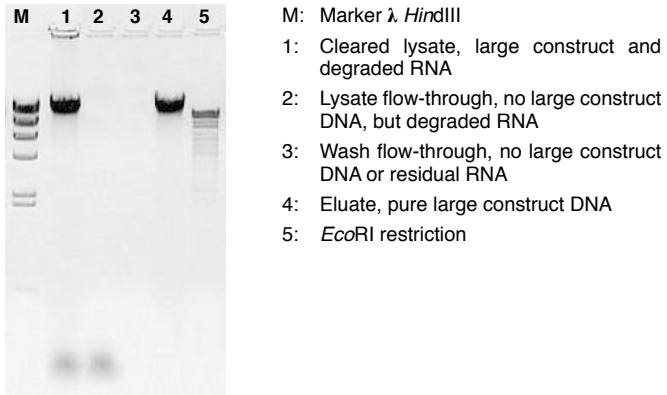

Figure 4: Exemplary analytical check of NucleoBond® Xtra BAC purification samples
The gel picture below (Figure 4) will help you to address the specific questions outlined in the following section more quickly and efficiently.
No or low large construct DNA yield	<p>Large construct did not propagate</p> <ul style="list-style-type: none">• Check large construct content in the cleared lysate (see Figure 4). Use colonies from fresh plates for inoculation and add selective antibiotic to plates and media.
<p>Alkaline lysis was insufficient</p> <ul style="list-style-type: none">• Too much cell mass was used. Refer to section 4.5–4.7 regarding recommended culture volumes and lysis buffer volumes. Check large construct content in the cleared lysate (see Figure 4).• Check Buffer LYS-BAC for SDS precipitation before use, especially after storage below 20 °C. If necessary, incubate the bottle for several minutes at 30–40 °C and mix well until SDS is redissolved.
<p>pH or salt concentrations of buffers are too high</p> <ul style="list-style-type: none">• Check large construct content in the wash fractions (see Figure 4). Keep all buffers tightly closed. Check and adjust pH of Buffer EQU-BAC (pH 6.3) and ELU-BAC (pH 8.5) with HCl or NaOH if necessary.
- Check RNA content in the wash fractions (see Figure 4). Keep all buffers tightly closed. Check pH of Buffer EQU-BAC (pH 6.3) and WASH-BAC (pH 6.3) and adjust with HCl or NaOH if necessary.